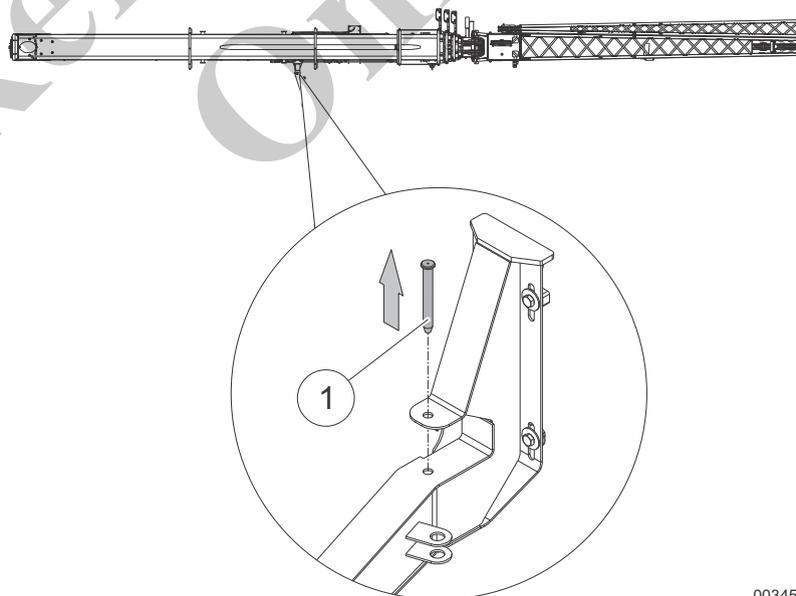

Fig. 143 Unbolting the ramp
- 19 Release and remove the bolt (1) in Fig. 143 on the ramp.